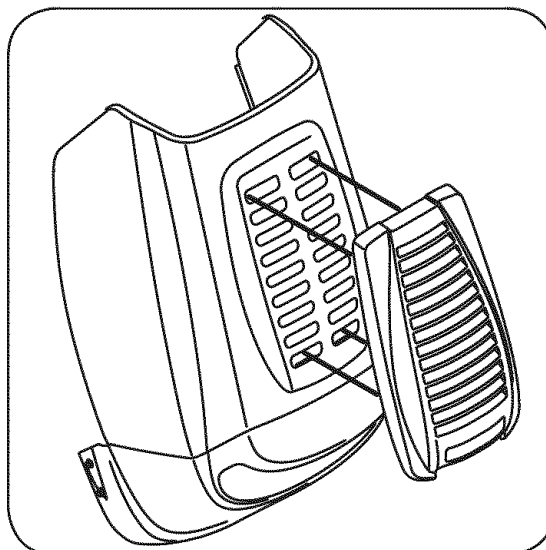

Figure 3-4
3. Line up the four holes in the hood scoop with the four holes visible through the tractor's hood louvres. See Figure 3-4.